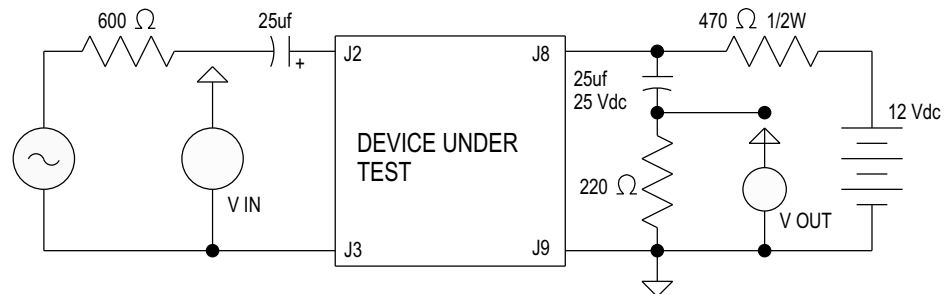

FIGURE 16. Airman 850 Headset, Circuit Board Test Diagram
1. Construct a **test circuit**. For more information, see Figure 16.